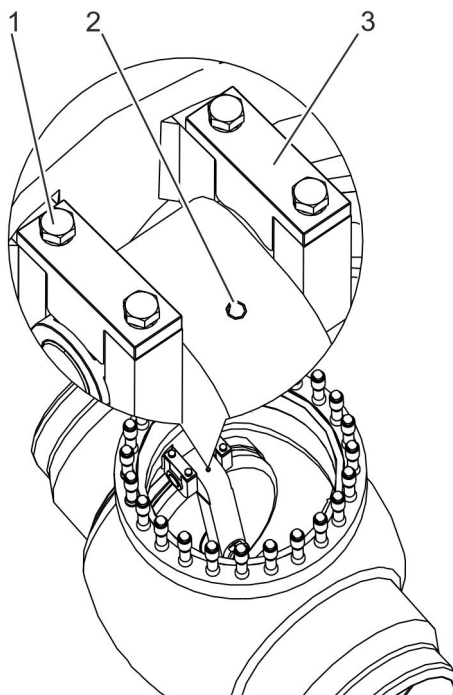

Fig. 33: Attaching the disc lever
- 2.** If there is a bore (Fig. 33/2) in the disc lever: Insert the ring bolt into the bore in the disc lever.
- 3.** Undo and remove the threaded connections (Fig. 33/1, 4 pieces) of the valve shaft’s bracket (Fig. 33/3).
- 4.** Remove the brackets (Fig. 33/3, 2 pieces).